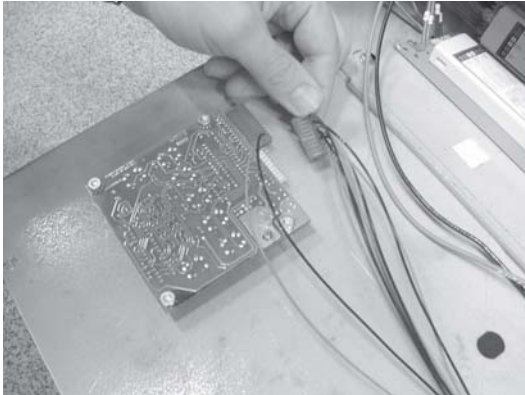

Figure 1
- 3.. Remove connectors to the PC board. Figure 1.